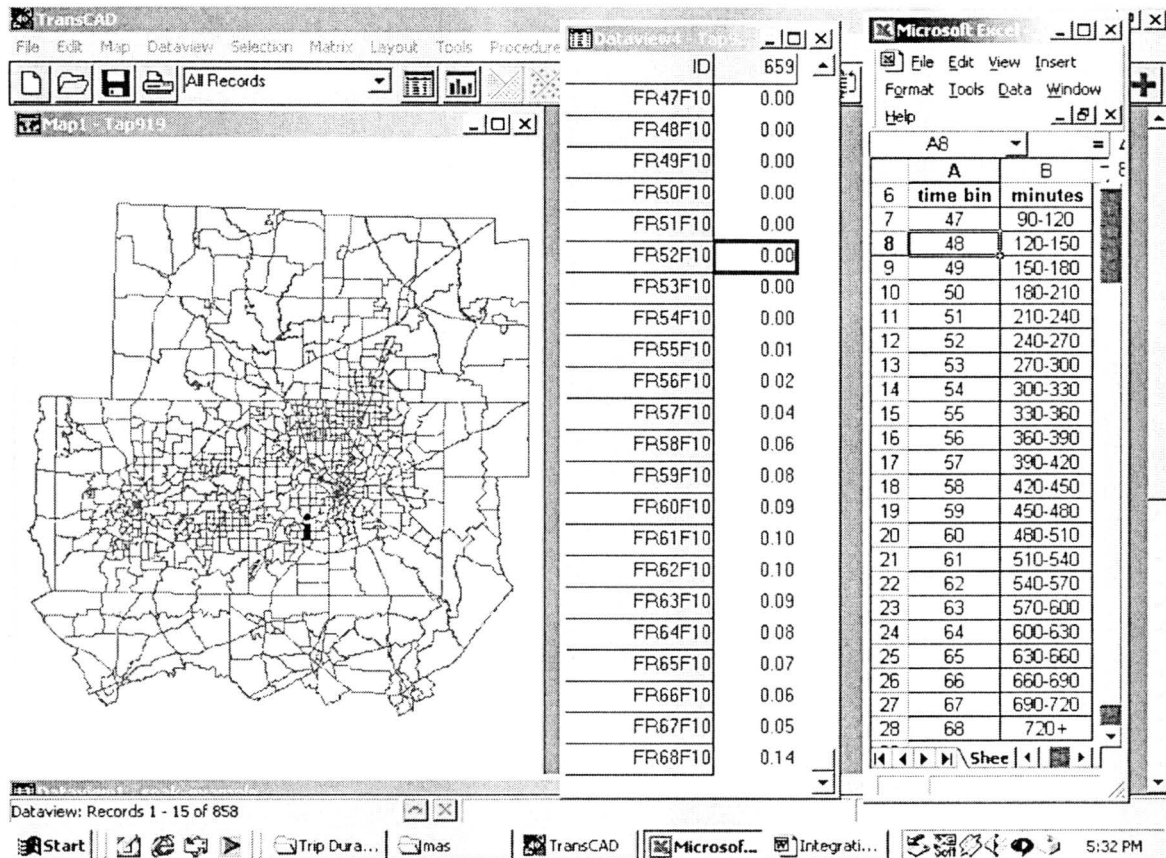

Figure I-4. Soak time duration distribution for morning and home purpose.
- The Figure below (Figure I-4) is an illustration of what the user can expect to see when the above two steps have been completed.